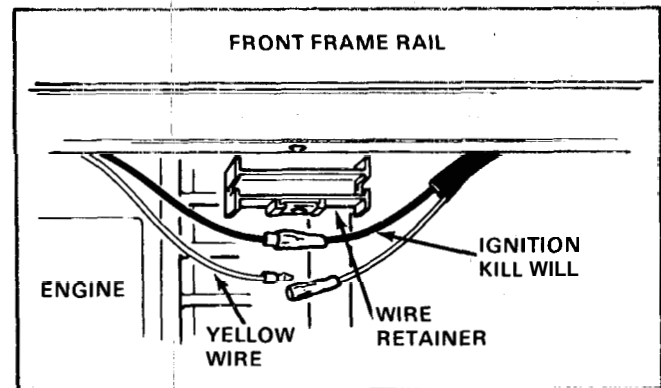

Figure 56
8. Unplug the black ignition kill wire and the yellow low oil shutdown wire. These are located on the front of the generator under the frame crossbar. See Figure 56.